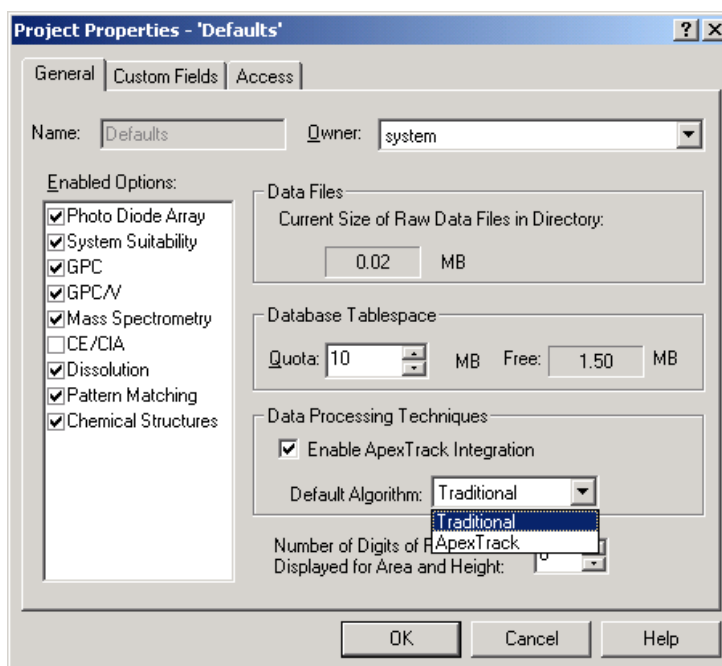

Figure C-5 General Tab of Project Properties Dialog Box
2. Select the project in Configuration Manager, then select **File > Properties**. (Alternatively, right-click the appropriate project in the table, then select **Properties**.) The General tab of the Project Properties dialog box appears for the selected project (Figure C-5). If a different tab appears, click the **General** tab.